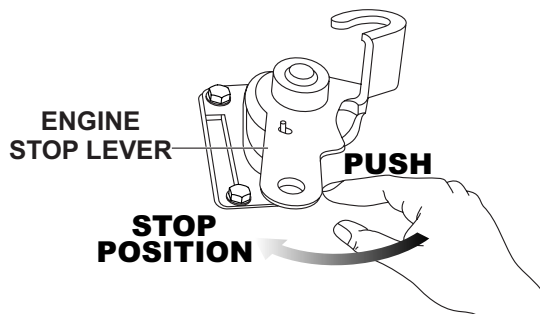

Figure 43. Engine Stop Lever
2. Place engine stop lever (Figure 43) in the **STOP** position. Continue pushing stop lever until the engine has completely stopped.